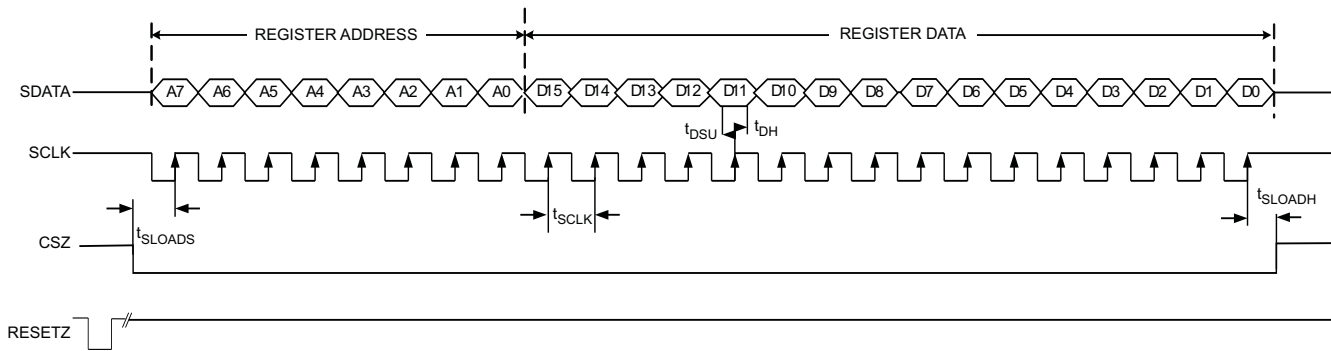

Figure 6. Serial Interface Timing
1. Through a hardware reset by applying a low-going pulse on the  $\overline{\text{RESET}}$  pin (of width greater than 10 ns) as shown in Figure 6.